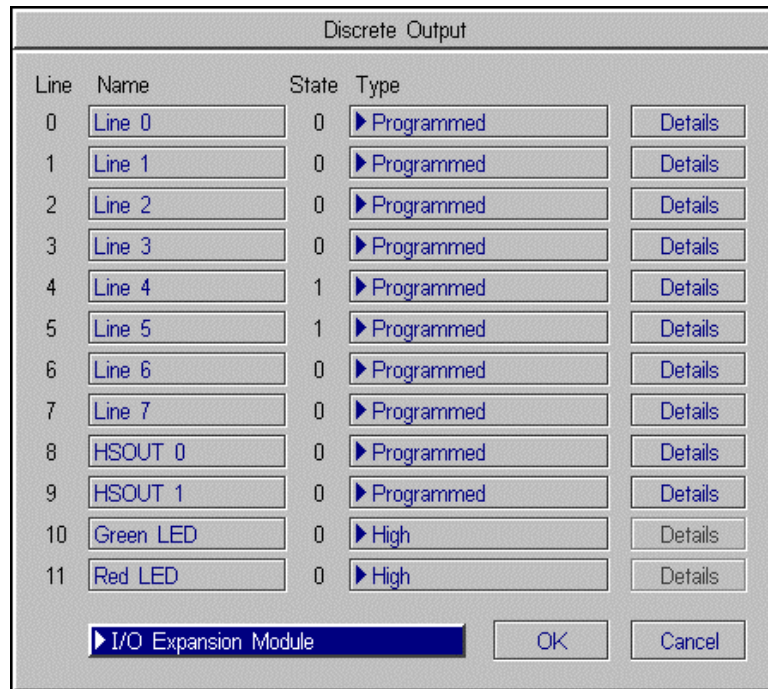

Figure A-4: Discrete Output Dialog, I/O Expansion Configuration
6. Open the drop-down list to the left of the OK button and select I/O Expansion Module. The Discrete Output dialog will automatically reconfigure to correspond to the I/O Expansion Module, as shown in Figure A-4.